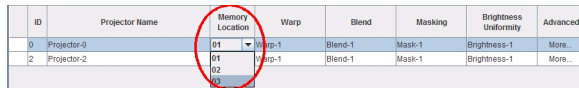

Figure 10-3 Projector Summary - Brightness Uniformity
1. To see the list of available brightness uniformities for the selected projector, click the drop-down arrow in the Memory Location column for the desired projector (**Figure 10-3**).